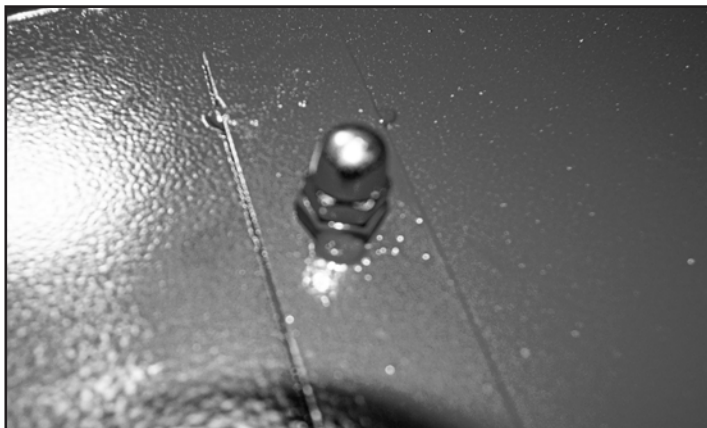

FIG. 29
3. From inside the Collection Drum, install the Cap Nut (#13A) (x4) to each protruding threaded shaft. This will protect the plastic collection bag from damage. Figure 29.